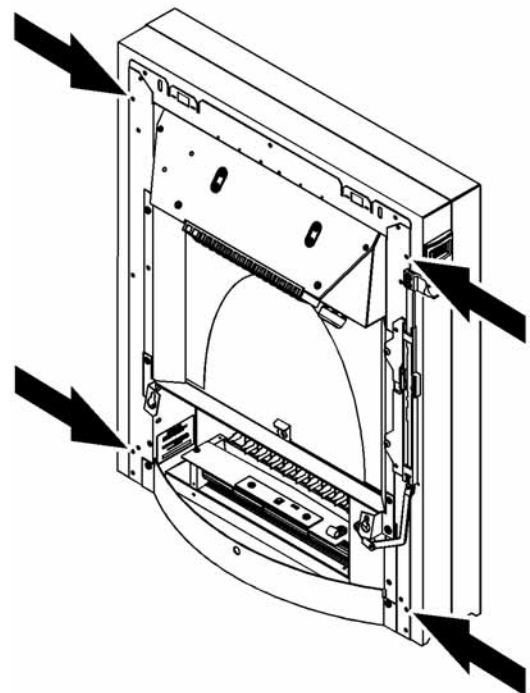

Figure 9. Fitting the optional spacer frame to the firefront
1. There are four No.8 x 3/8 screws supplied with the optional spacer frame. The narrow flange of the optional spacer should be placed against the spacer supplied with the firefront. Screw the optional spacer frame to the one supplied with the firefront (See figure 9).
2. Secure the spacer frames to the firefront using four No.8 x 3/8 screws supplied (See figures 9 and 2).